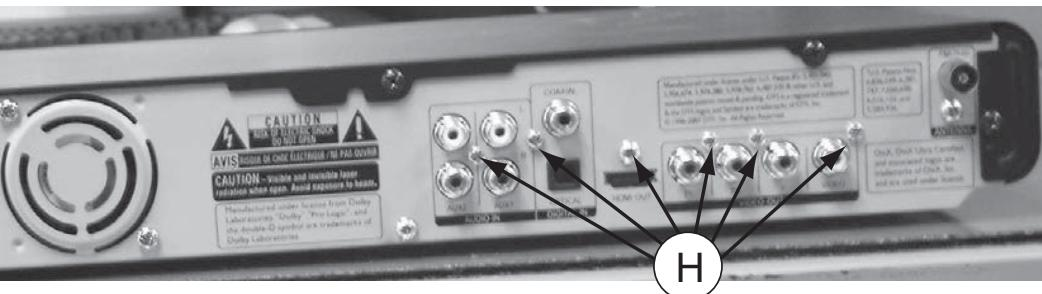

Figure 11
2) Loosen 6 screws "H" at the back panel as shown in figure 11.